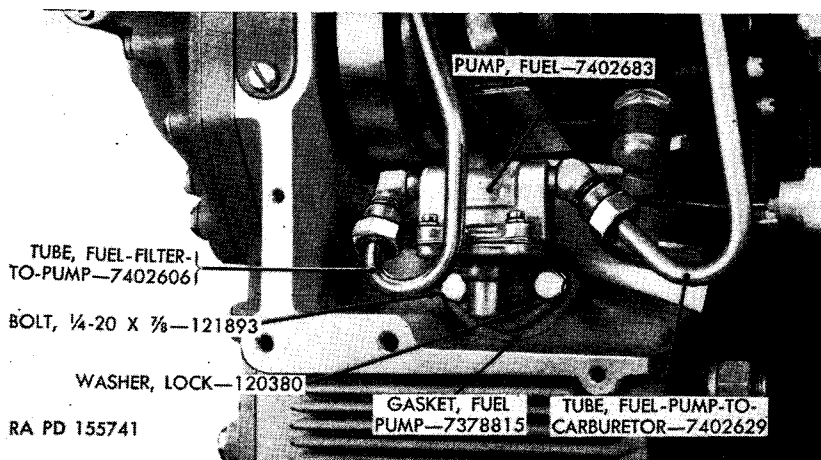

Figure 25. Fuel pump.
a. Remove two $\frac{1}{4}$ -20 x $\frac{7}{8}$ bolts and lock washers securing fuel pump to crankcase (fig. 25).